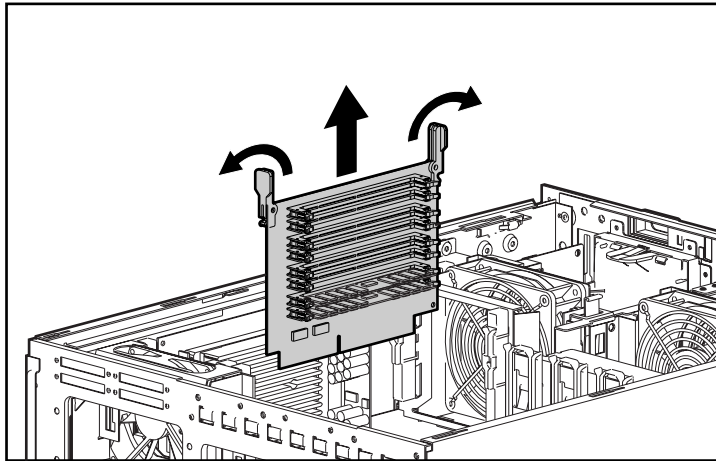

Figure 4-5. Removing the memory board
1. Remove the memory board as shown in Figure 4-5.